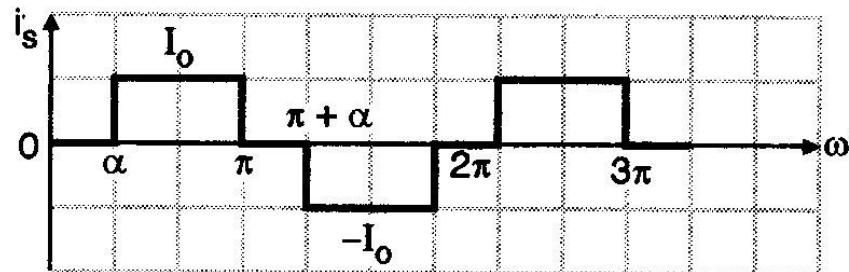

Fig. 2.28 : Source current waveform
The source current waveform which is to be expressed in the form of Fourier series is as shown in Fig. 2.28.
- But from the Fig. 2.28